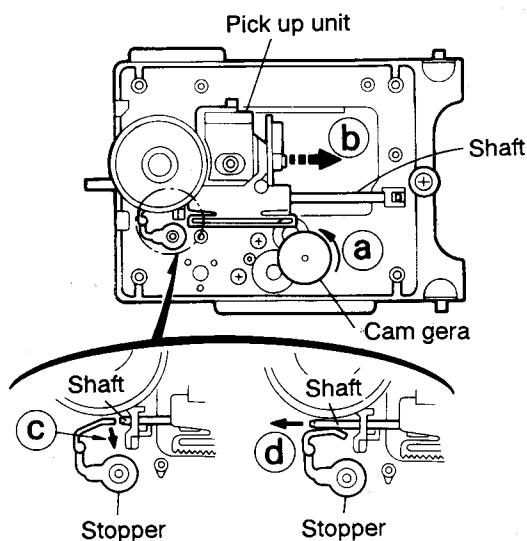

Fig. 5-42
### ■ Removing the CD pickup unit (See Fig. 5-42)
1. Move the cam gear in the arrow direction ④. Then, the CD pickup unit will be moved in the arrow direction ⑤.
2. According to the above step, shift the CD pickup unit to the center position (Fig. 5-42).
3. While pressing the stopper retaining the shaft in the arrow direction ③, pull out the shaft in the arrow direction ④ (See Fig. 5-42).